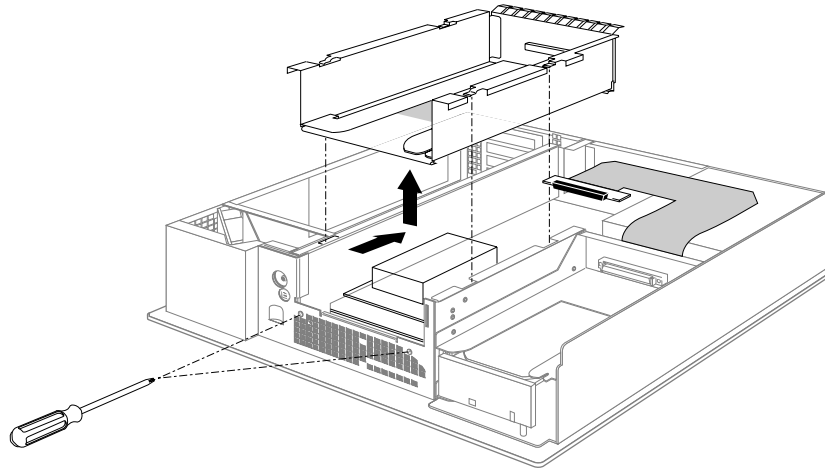

Figure 2-3 Removing the 5-1/4 Inch Drive Tray
5. Disconnect the flex cable from the 5-1/4 inch drive tray, then loosen the captive screws at the front of the system and remove the drive tray. Slide the tray back to unlatch it, then lift it from the system, as shown in Figure 2-3.